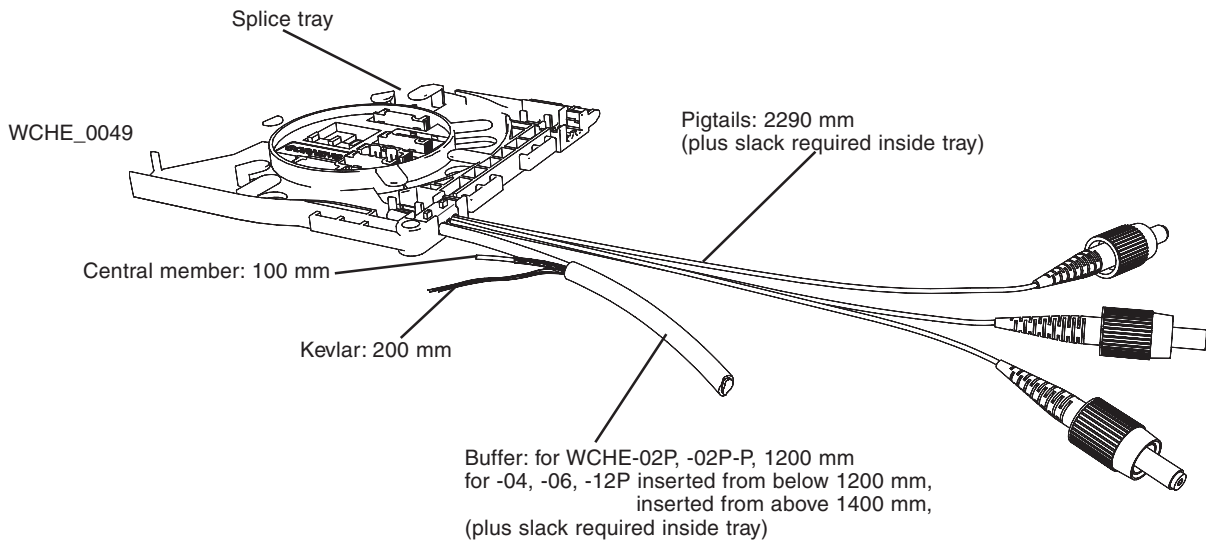

Fig. 18
8.4 If splicing is required, recommended cable sheath removal lengths are shown in Fig. 18.